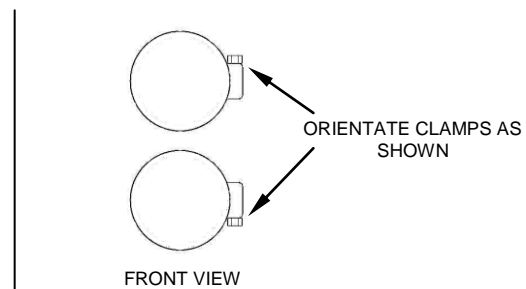

FIGURE 4
12. Unscrew the hose clamps and feed the tail end of the clamp through the clips on the inside of the heatshields; the larger clamps go to the rear where they will rest on the muffler bodies, smaller ones to front for the headpipes. The screw end of the hose clamp should be accessible for tightening but not visible when the heatshields are mounted to the pipes, see Figure 4.